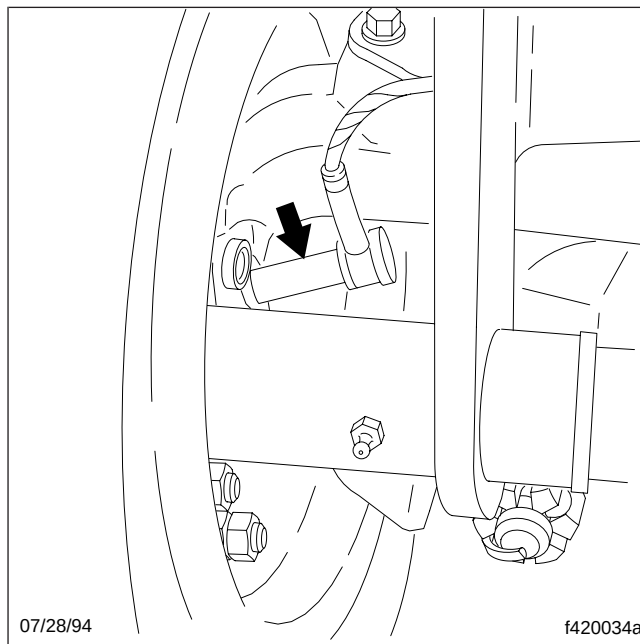

Fig. 1, Front Wheel Speed Sensor Removal
2. Twist and pull the sensor to remove it from the steering knuckle. See Fig. 1.